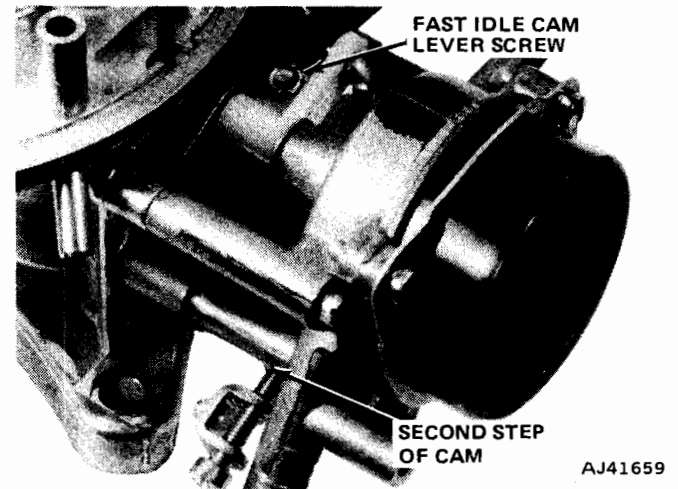

Fig. 4-54 Fast Idle Cam Linkage Adjustment
(1) Push down on fast idle cam lever until fast idle speed adjusting screw is in contact with the second step (index) and against the shoulder of the high step.
(2) Measure clearance between the lower edge of choke valve and air horn wall (fig. 4-54). Refer to Carburetor Service Specifications for the correct setting.
(3) Adjust by turning the fast idle cam lever screw.
(4) Loosen the choke cover retaining screws and adjust the choke as outlined under Automatic Choke Adjustment.
(5) Install choke shield clamp and retaining screws.